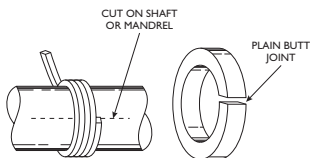

Fig. 33-18 Eliminating the pie-shaped void.
2. Cut packing rings on shaft or mandrel as shown in Fig. 33-18. Keep the job simple and cut rings with plain butt joints.